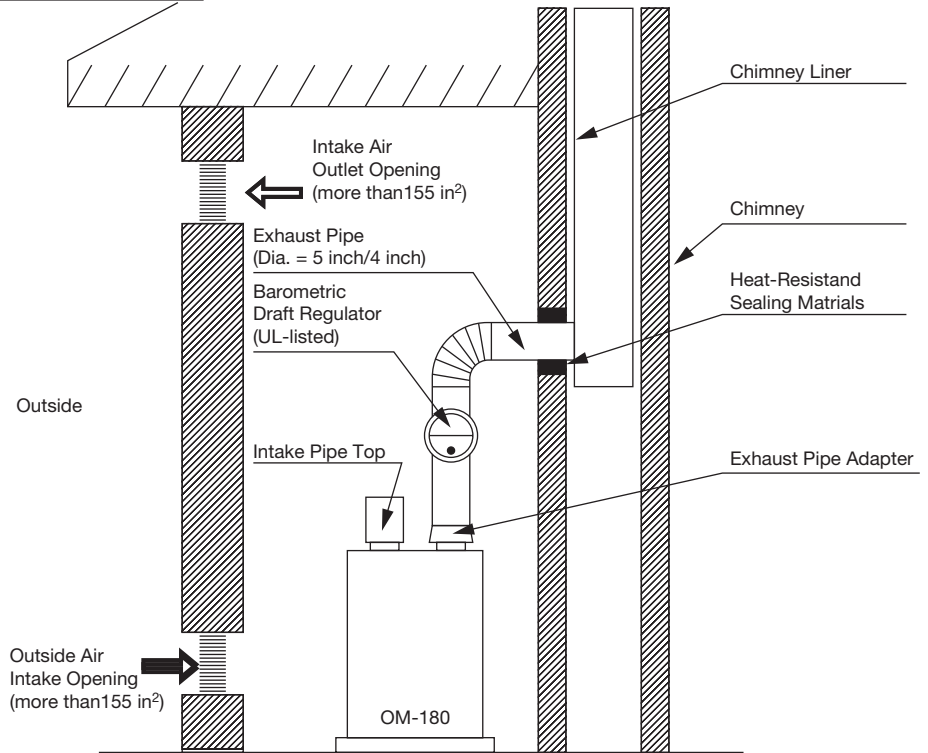

Fig. 1
3. Installation in an **unconfined space** in buildings of conventional frame, brick or stone construction, infiltration normally is adequate to provide air for combustion and ventilation. For **confined spaces**, openings for air intake and venting must be provided. (See Fig.1.) Or connect Air Intake Inlet port directly to outside air with 3 or 4 inch aluminum pipe. Check local codes and ordinances and/or NFPA-31 Code for specific details.